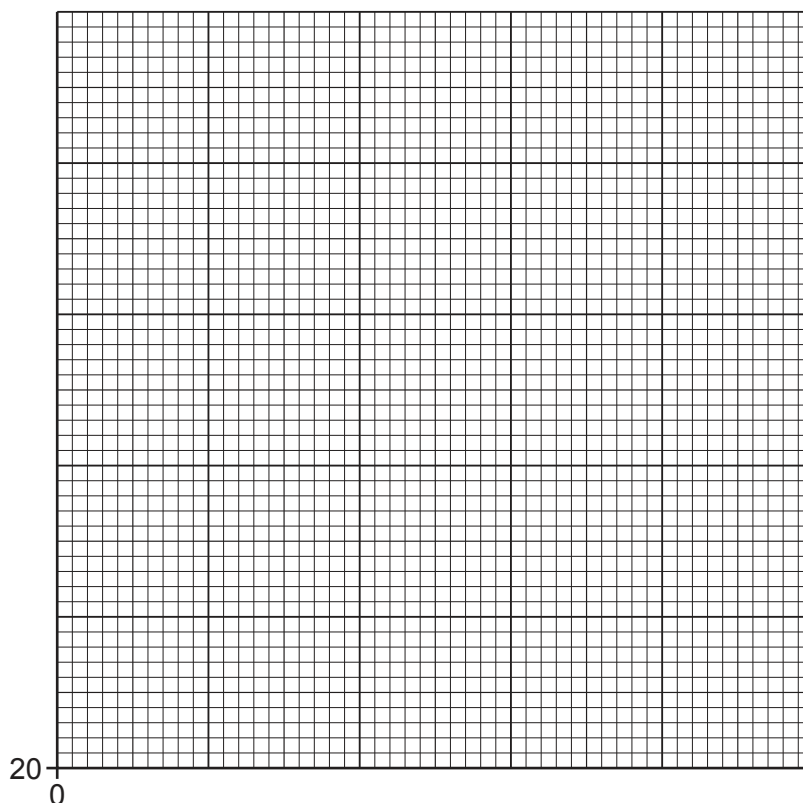

Fig. 1.4
- (i) Plot a graph of the data shown in Table 1.3 on the grid in Fig. 1.4.